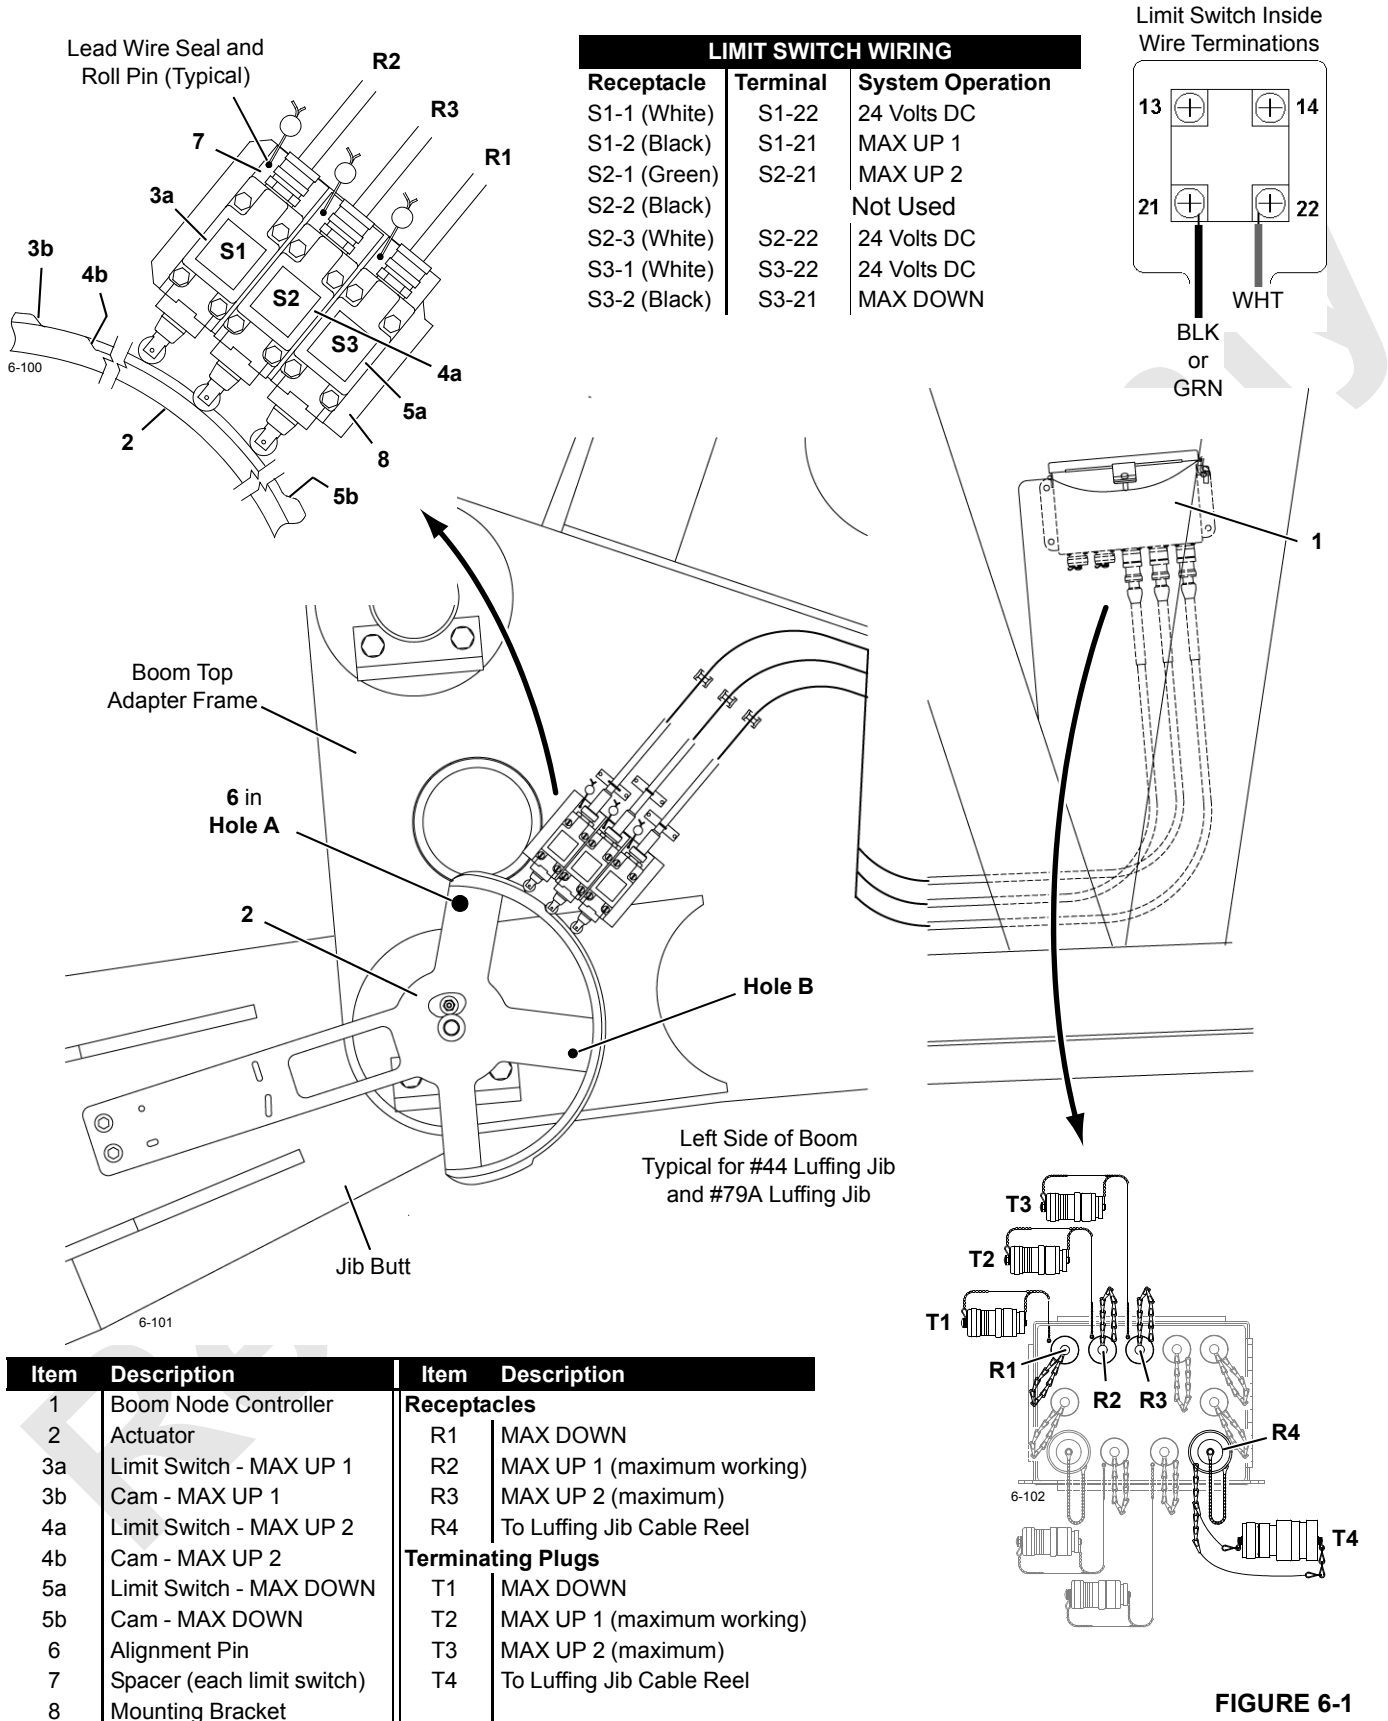

FIGURE 6-1
The luffing jib attachment is equipped with three limit switches (Figure 6-1) which automatically stop the luffing hoist and apply its brake when the luffing jib is raised or lowered to the following angles:
See Figure 6-1 for the following procedure.
See Figure 6-1 for the following procedures.
1. Securely fasten actuator (2) to jib butt with screws and lock washers provided.
2. Once limit switches are properly adjusted, drill and seal limit switch spacers (7, Figure 6-1) to mounting bracket (8) with roll pins and lead wire seals.